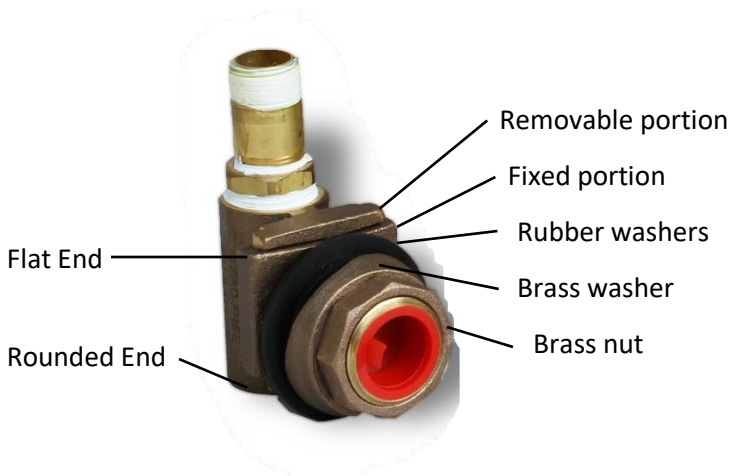

Figure 1: Pitless adapter assembly
5. Separate the pitless assembly removable portion from the fixed portion. See Figure 1. **Protect these components from damage and debris.**